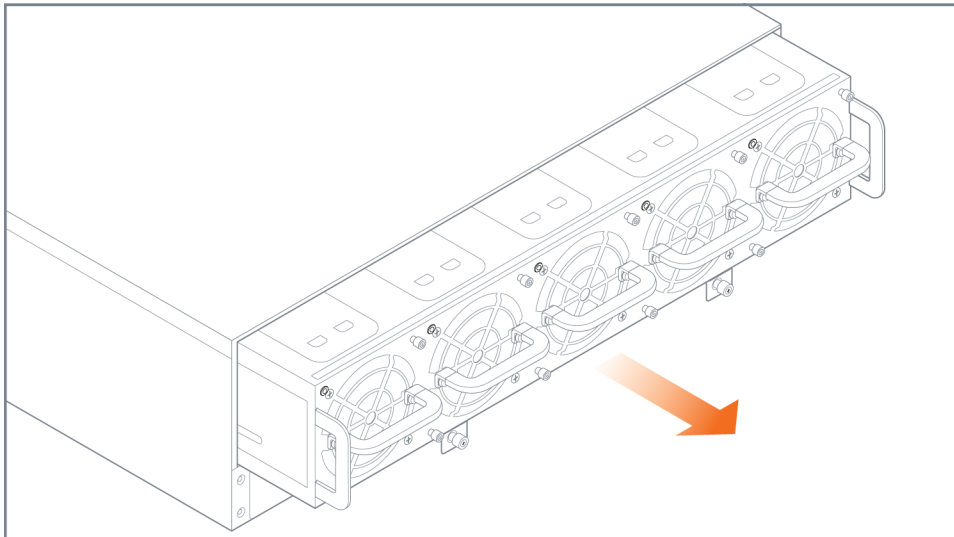

Figure 11 Fan Tray Removal
3. Pull the failed fan tray out of the slot and set it aside. Refer to Figure 11 Fan Tray Removal.